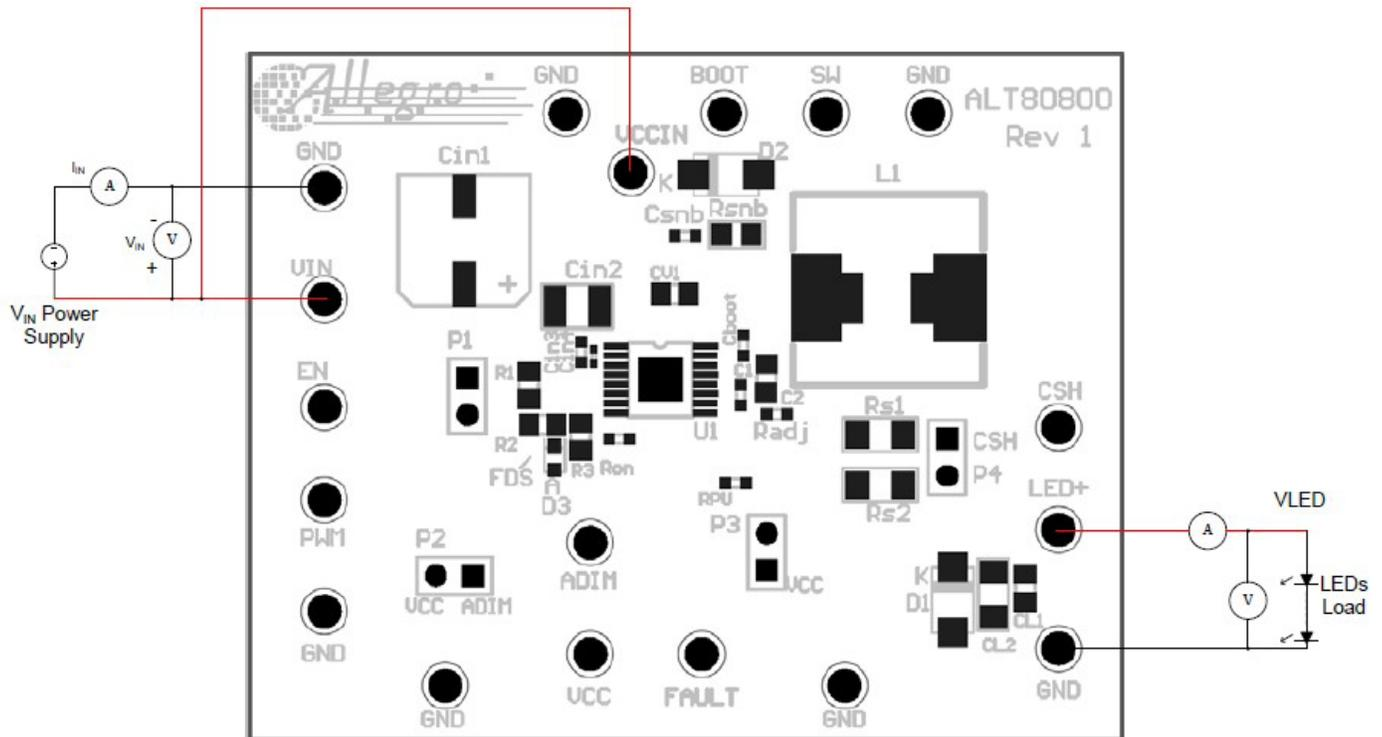

Figure 2: Evaluation board setup
Figure 2 illustrates the basic setup of the evaluation board.
1. To start using the evaluation board, connect the power supply, cables and LED string as indicated in Figure 2. The ammeters and voltmeters are not required for operation.